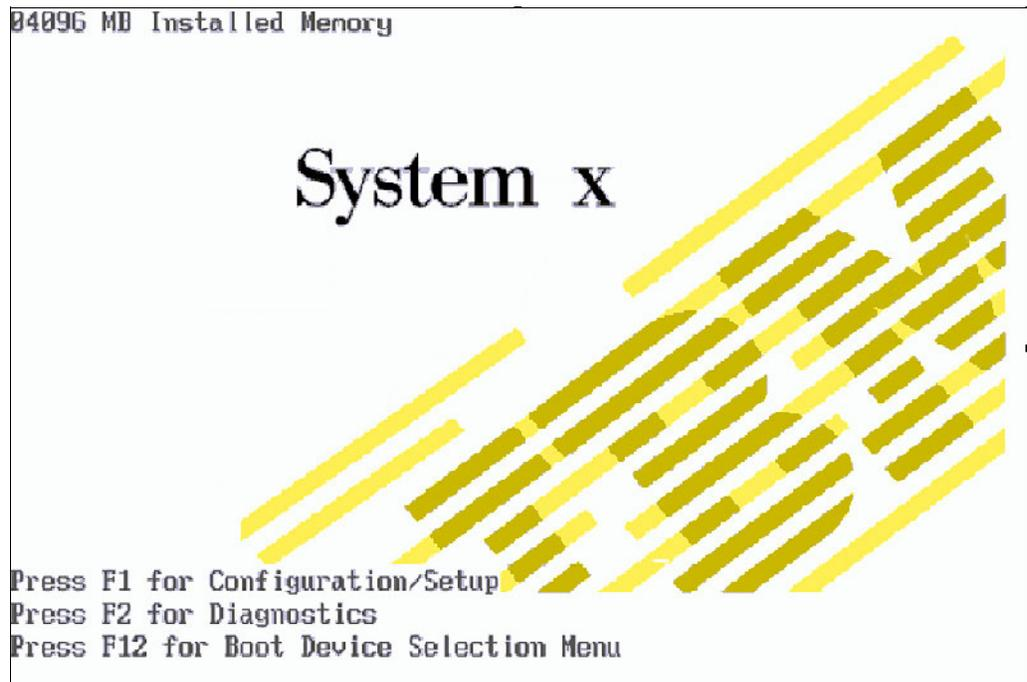

Figure 18-33 System x BIOS Setup panel
2. Press F1 to enter BIOS setup, as shown in Figure 18-33.